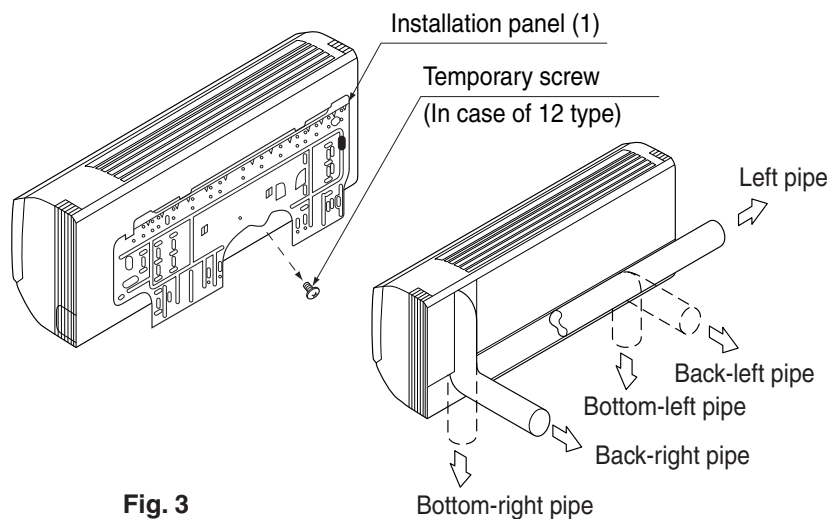

Fig. 3
(1) Open the piping through-hole.
- The refrigerant pipe and drain pipe can be passed out in one of 5 directions: left, bottom-left, back-left, bottom-right, and back-right. **(Refer to Fig. 3)**
- Using the paper pattern for installation (3), choose where to pass the piping out and open a through-hole ($\phi 3 \frac{1}{8}$ ") in the wall.
(Refer to Fig. 3)